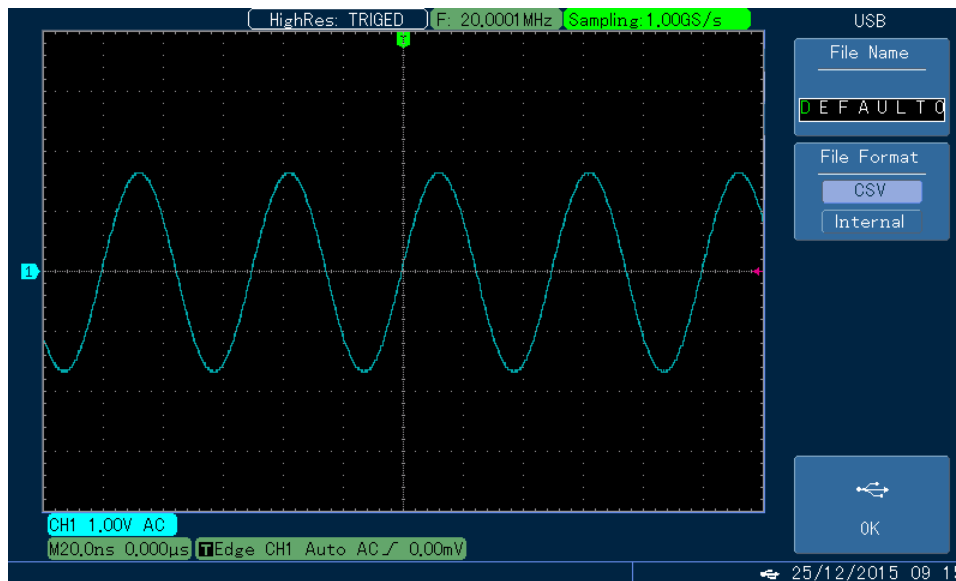

Fig. 3-15 Save the waveform into U-disk
7. Press F1 to start the detection. Once the instrument is in operation, press F1 again to stop it manually. Notes: After it is stopped each time, the count of “Pass/Fail” times will be started all over again, as shown in Fig. 3-15.